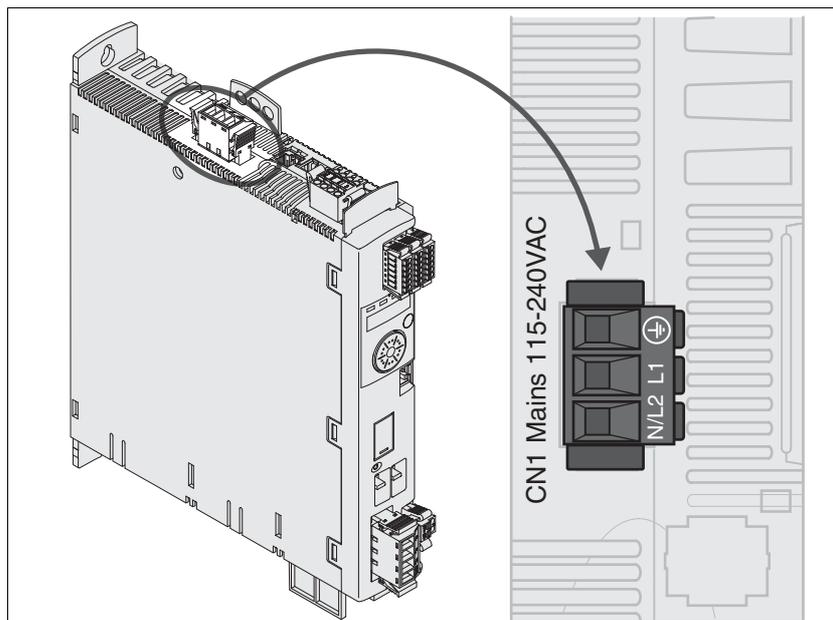

Figure 6.8 Wiring diagram power stage supply voltage for single-phase device.
- ▶ Connect the mains cable (Figure 6.8). Note the tightening torque specified for the terminal screws.